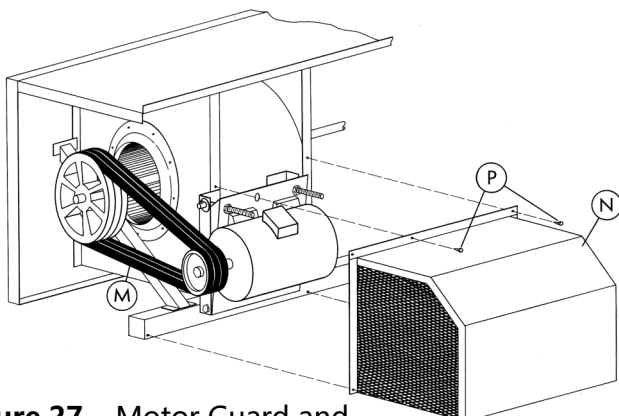

Figure 27 – Motor Guard and Powerband Belt Installation
6. Install the belts **M** around the fan sheave and motor sheave (**Figure 27**). Tighten belts by adjusting nuts on J-bolts. Do not over tension the belts. When the belts are properly adjusted, the deflection at the center of the belt should be approximately 13mm with moderate hand pressure.
9. To install the motor guard **N**, line up the holes and fasten with the self-tapping screws **P** (**Figure 27**). Check to ensure that the motor guard does not make contact with the drive sheave or belts.